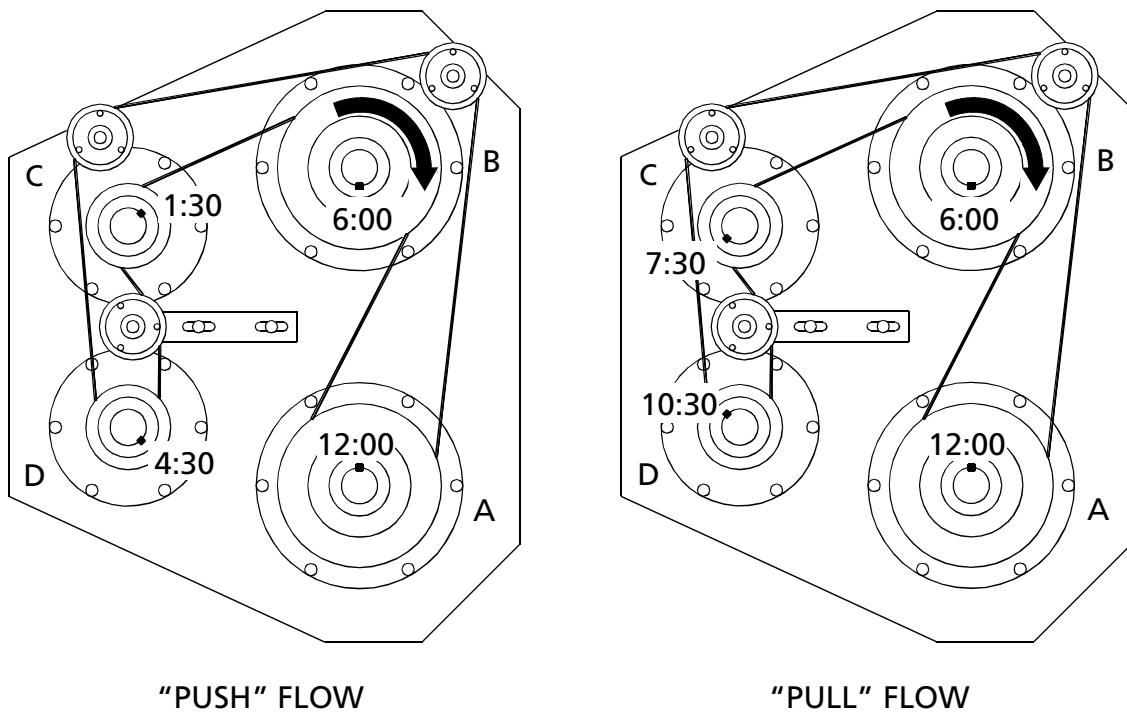
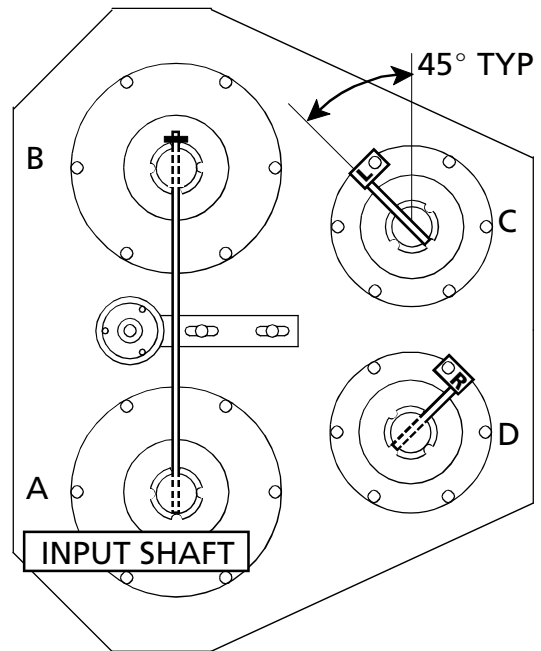

Figure 3 - Push and Pull Timing Belt Arrangements
Figure 4 - Timing Tools Inserted
7. Depending on whether the drive is a "Push" or "Pull" unit, locate the corresponding view in Figure 3. Using the sprocket on the timing belt side, rotate Shaft C until the keyway is in the 1:30 position for a Push drive, or the 7:30 position for a Pull drive. On the drive side insert a timing tool in the hole in Shaft C. Bolt it in place using a 3/8-16 x 3" bolt, in the 11 o'clock bearing cover hole. Note that the stamp "LH" (left hand) must be visible on the timing tool. See Figure 4.
8. Repeat the previous step for Shaft D, locating the keyway on the timing belt side at 4:30 for a Push drive or 10:30 for a Pull drive, and bolting a timing tool to the 1 o'clock bearing cover hole on the drive side. Note that the "RH" stamp must be visible on the timing tool. See Figure 4.
9. With all weights fixed in place, fit the timing belt to the sprockets as shown in Figure 3. Position the adjustable idler to produce a modest amount of tension in the timing belt.
13. Replace the drive guard and belts. Check rotation of the unit before replacing the guards. Rotation must be in the direction shown by the large arrow in Figure 3.